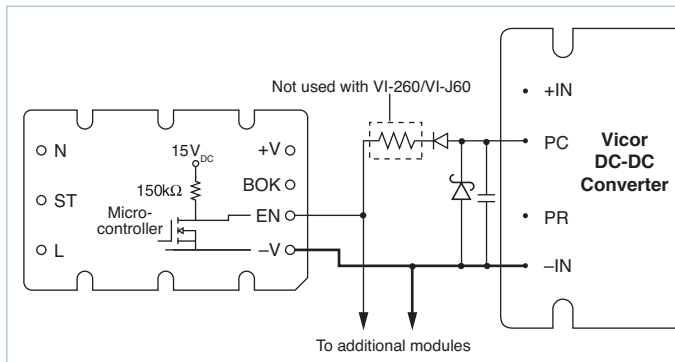

Figure 11 — Enable (EN) function; See Fig. 8 for details
**Enable (EN) Pin:** (See Figure 11) The Enable pin must be connected to the Gate-In or PC pin of all converter modules to disable the converters during power-up. Otherwise, the converters would attempt to start while the holdup capacitors were being charged through an un-bypassed thermistor, preventing the bus voltage from reaching the thermistor bypass threshold thus disabling the power supply. The Enable output (the drain of an N channel MOSFET) is internally pulled up to 15V through a 150kΩ resistor.